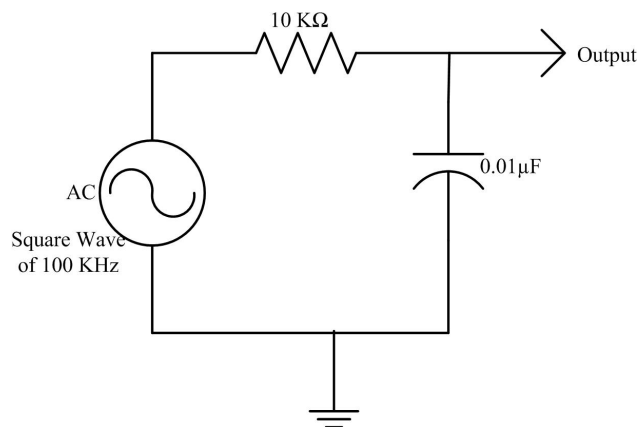

Figure 3: Schematic representation of an integrator circuit using R and C components.
- Integrator circuit: Build the circuit on the breadboard as shown in Figure 3. Check your output for square wave input of $10\text{ V}_{\text{p-p}}$. Capture the image of input and output in CSV format and draw this plot in your lab report.